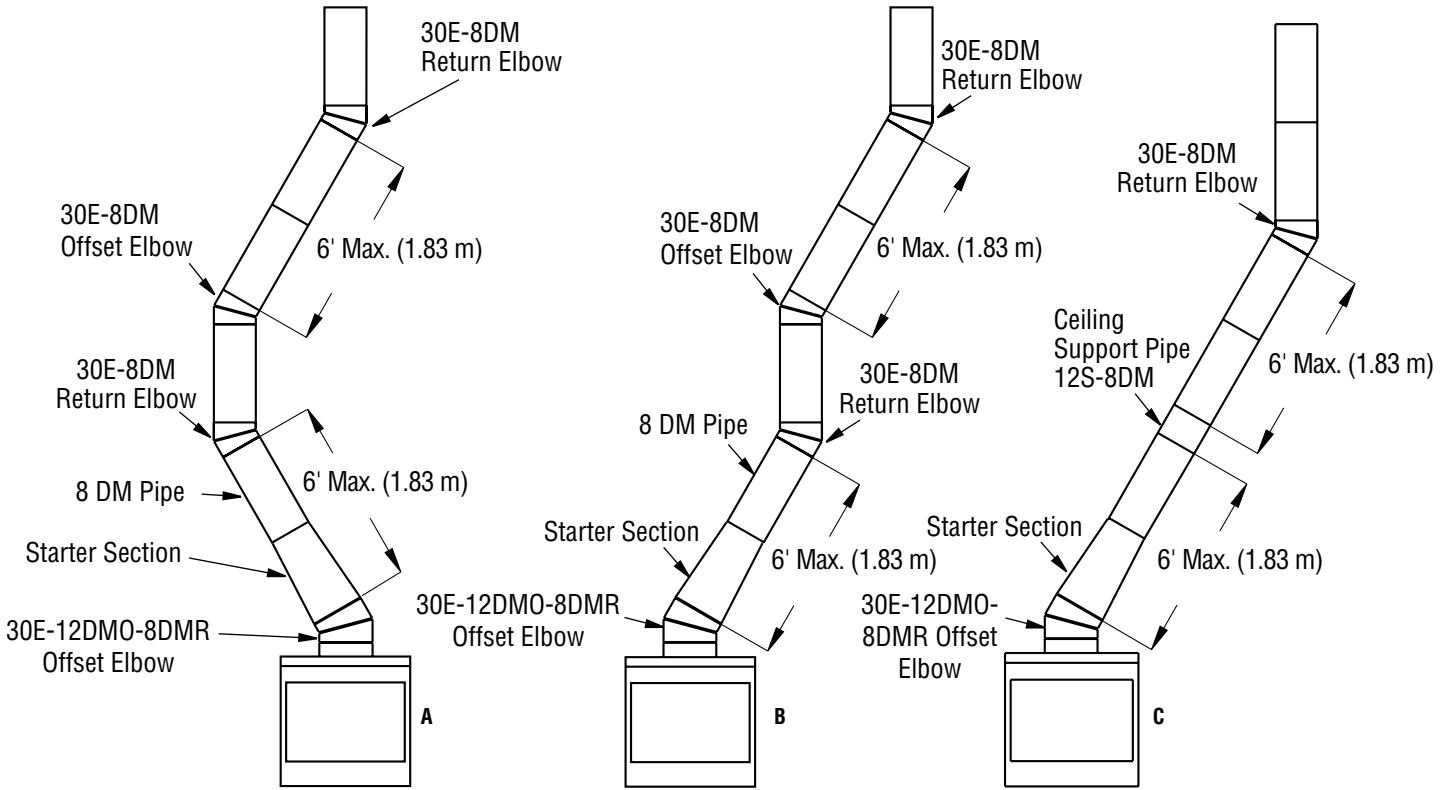

Figure 10 - Typical Offset Installation
3. Maximum length of pipe between supports (return elbow or 12S-8DM) is 6' of angle run. Maximum of two 6' angle run sections per chimney system (see **Figure 10, Page 9**).